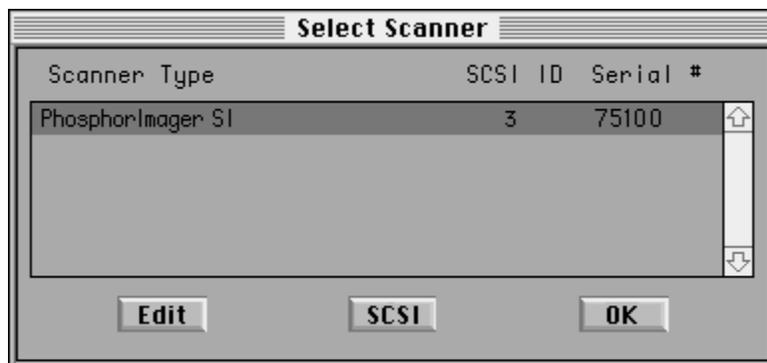

Figure 5-2. The Select Scanner window.
1. Click on the **Select Scanner** button. The Select Scanner window opens (figure 5-2).